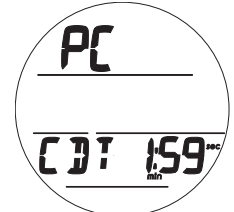

Fig. 130 - PC INTERFACE
Upon sensing an interface connection, the requesting device (PC) connects to the GEO 2 and is prepared for upload of settings or download of data which is then initiated using the PC program. During the process, there is a 2 minute window during which a PC countdown screen is displayed on the GEO 2 (Fig. 130). Upload or download must be started during this time.